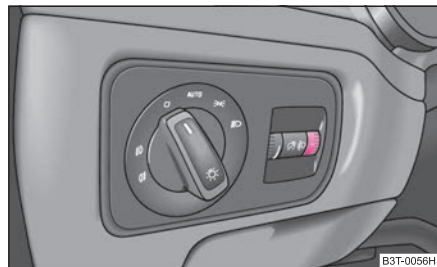

Fig. 45 Dash panel: Lights and Visibility
- Turn the control dial $\Rightarrow$ fig. 45 until you have adjusted the low beam so that oncoming traffic is not dazzled.